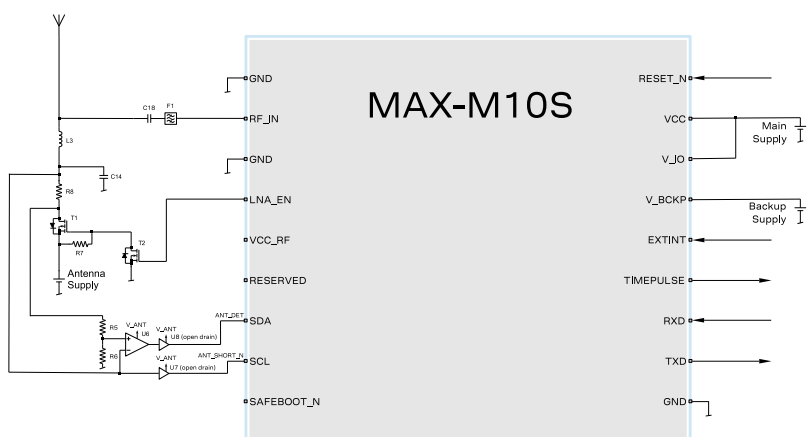

Figure 23: 3-pin antenna supervisor design
- Passive or active antenna can be used. The active antenna can be supplied either with the VCC_{RF} output from MAX-M10S or from an external supply as shown in Figure 23.
- UART and I2C communication interfaces are available. I2C PIOs (SDA and SCL) can be used in the case of 3-pin antenna supervisor design as shown in Figure 23.